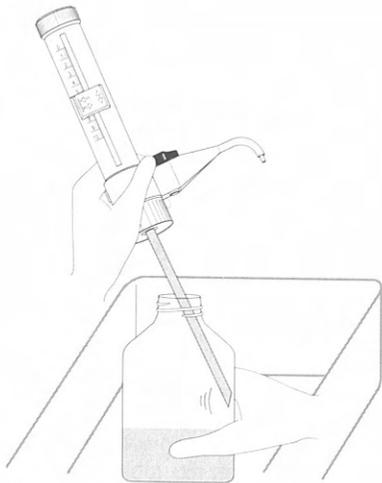

Fig. 8
- Carefully tap the filling tube against the bottle from the inside so that the reagent runs back into the bottle (Fig. 8).